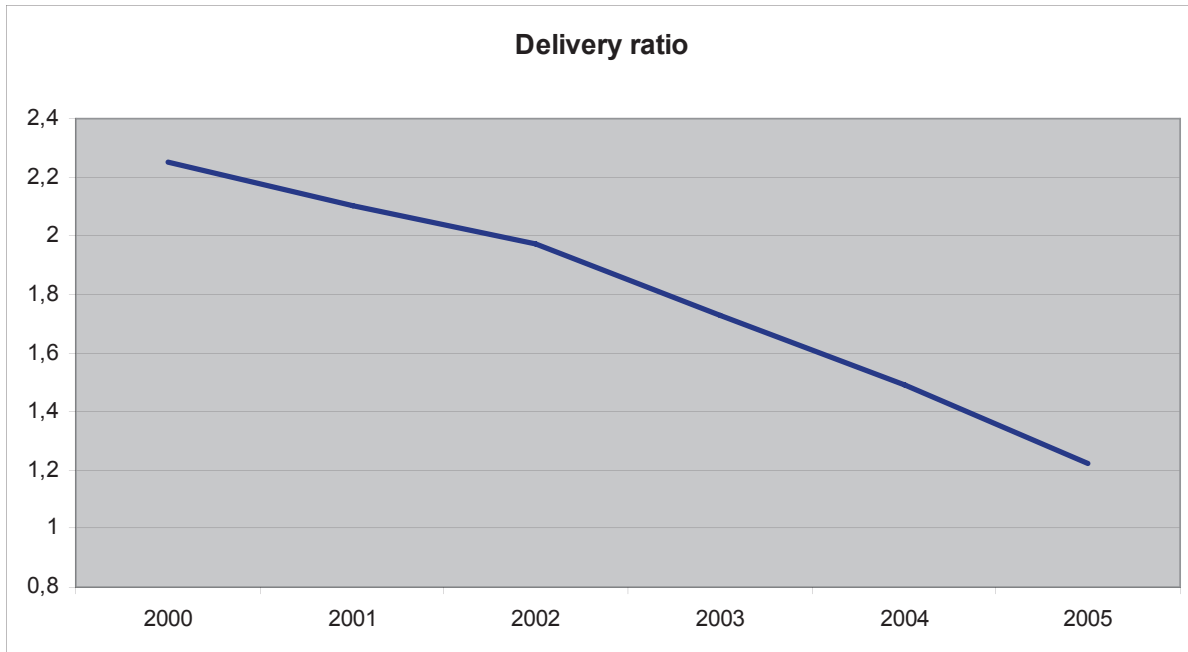

Figure 4
- Project delays reduced by 95% (figure 4)